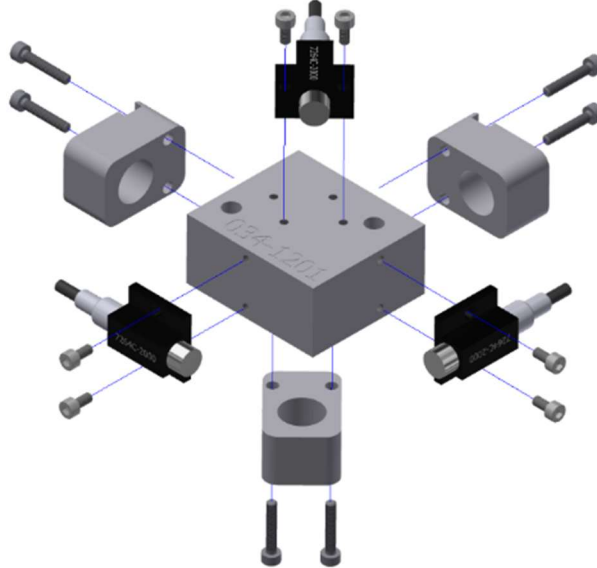

Figure 3-12. Exploded head accel/ARS mount
- 3.2.11 Remove the 3 uniaxial accelerometers (SA572-S4) and three angular rate sensors (ARS) (S572-S58) from the 6 axis accel /ARS mount (SA572-S87) by removing two M1.4 X 0.3 X 3 LG. SHCS per accelerometer and two M1.4 X 0.3 X 8 LG. SHCS per ARS (Figure 3-12).